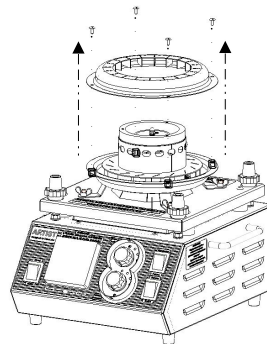

Figure 7
4. Detach upper part of the stator by removing four screws, see Fig.7. Rinse this part with water and wipe dry immediately.